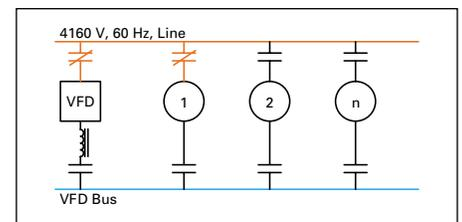

Figure 10.4-17. Motor #1 on Bypass
- VFD opens drive output contactor (**Figure 10.4-17**)